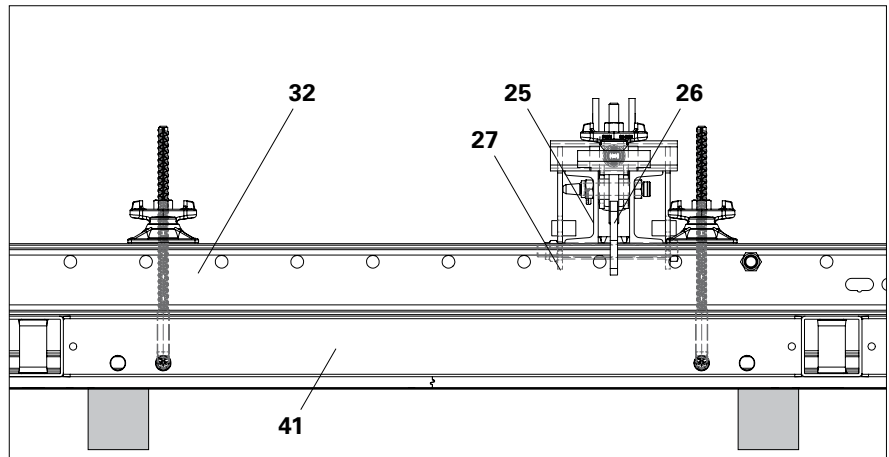
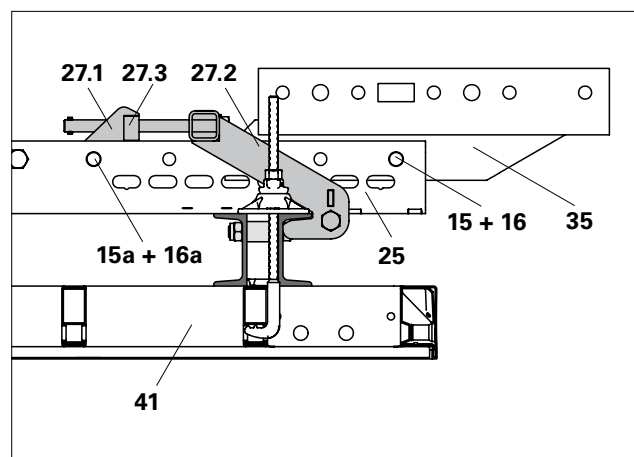

Fig. C1.01b
Fig. C1.01d
2. Position the Strongback SRU (25) on the waling (32) according to the planning.
3. Clamp the Strongback to the waling at the top (32) using the Waler Fixation SRU (26).
- (Fig. C1.01b + C1.01c)
5. If the Crossbeam Head RCS/VARIO is used: mount the Strongback Adapter (35) to the Strongback using fitting pins \varnothing 21 (15) and cotter pins 4/1 (16).
- (Fig. C1.01d)